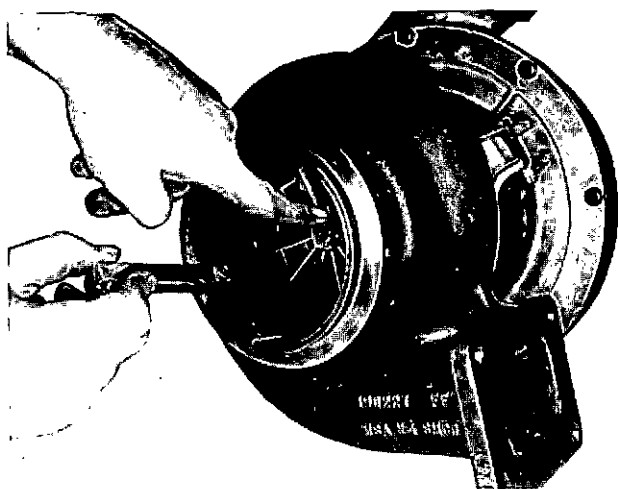

Fig. 4-42, (T465094). Check the turbine end radial clearance
20. Check the turbine end radial clearance. Use the same procedure as done in 19. Clearance on the turbine end must be 0.008 to 0.043 inch [0.20 to 1.09 mm], Fig. 4-42.